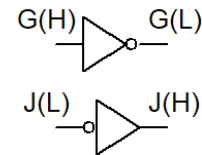

Figure 1: Use only four inputs. Create alternate activation-level inputs with level-shifters.
use the four inputs for **either** W or X and **create the other necessary inputs (with opposite activation-levels) using level-shifters** as shown in Figure 1. For example, using the signal names in Figure 1, you **cannot** have a switch for G(H) **and another** switch from G(L); you can have one switch for either G(H) **or** G(L), and you will get the other signal with a level shifter.
1. Make a new project and filename Lab1d. Design mixed-logic implementations of the equations for Y and Z in equations (4) and (5) below. The goal in this part is to choose input and output activation-levels to minimize the **total number of gates and chips** used in the overall design of these two circuits. Choose only one of the two possible activation-levels for each of the inputs, i.e., A(H), B(L), etc. [but not A(H) for one and A(L) for the other]. If you need both A(H) and A(L), that will cost one gate, a level-shifter or its equivalent, as shown in Figure 1. One last requirement is that Y and Z have **opposite** activation levels. Create the design by hand and then do it with Quartus in a single file. Do **not** simplify. (Hint: No more than two chips and seven gates are needed. **Also, since you will need to build this circuit and you only have 74HC00 and 74HC02 chips available [and allowed], you should strongly consider using only the gates available on these chips.**)